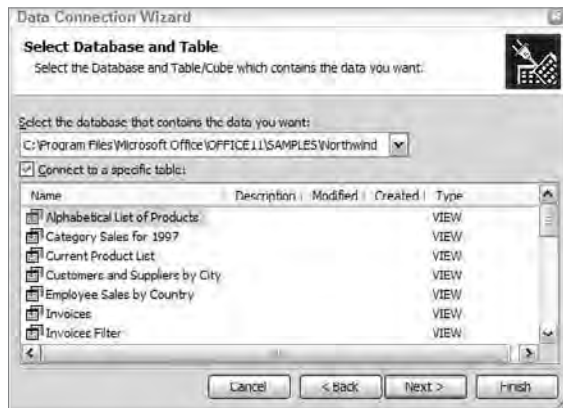

Figure 28.11: Select the tables from the database to which you want the Excel worksheet to have access.
- In the Select Database and Table dialog shown in Figure 28.11, you must select the tables you want to link to. If IT has built a special table containing all the data you need, then select the Connect to a Specific Table check box. If you have more than one table you want to link to, clear the Connect to a Specific Table check box. Click Next.